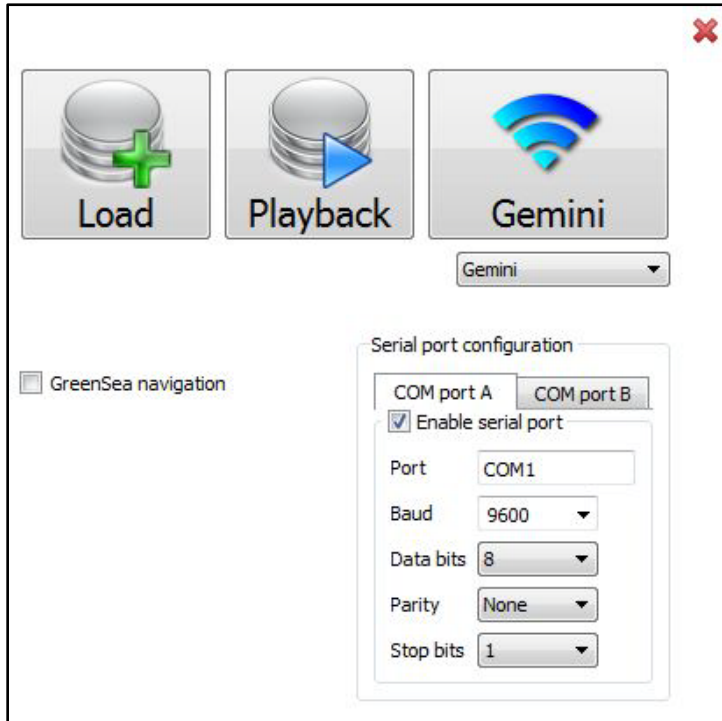

Figure 28. Navigation Interfacing
3. Click the checkbox next to **Enable serial port** on the COM port A tab or click the checkbox next to **GreenSea navigation** (Figure 28).